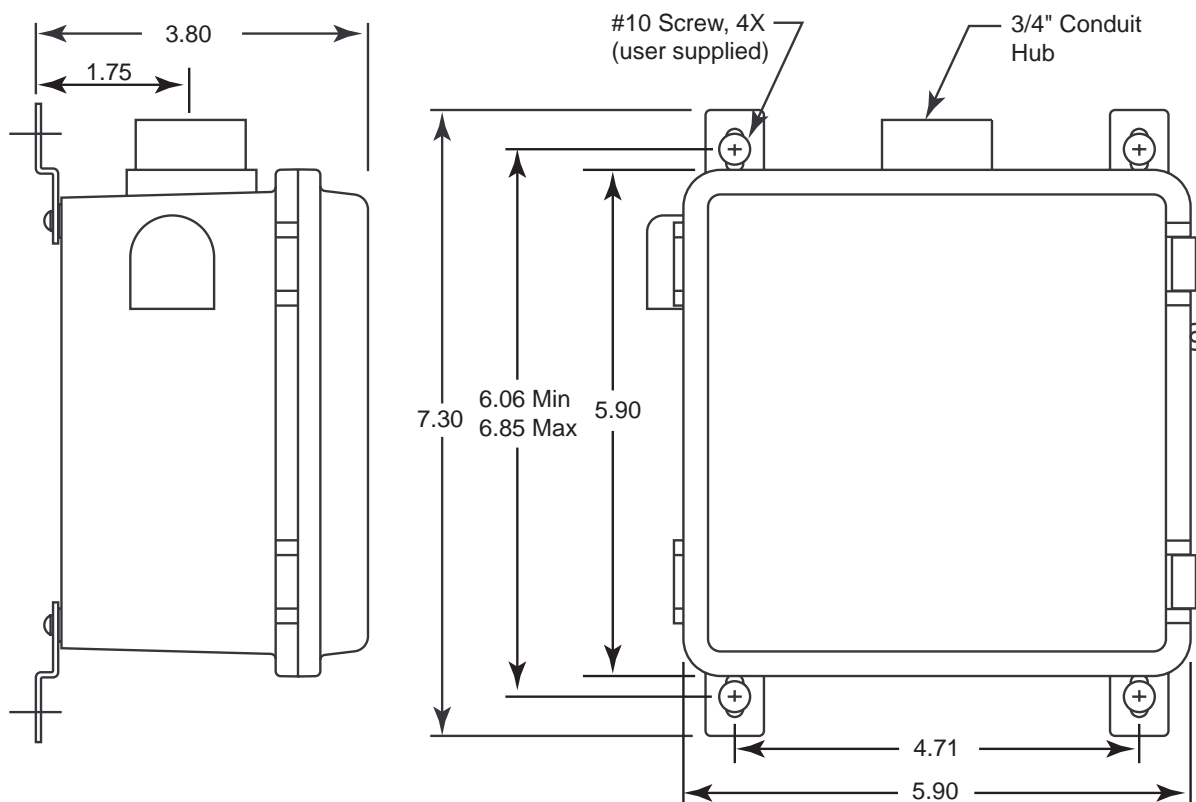

Figure 2: Outline & Mounting Dimensions
- The standby battery is shipped with the mounting feet positioned behind the housing. Loosen the screws that secure the feet to the housing, rotate the feet to their mounting position as shown in Figure 2, then tighten the screws.